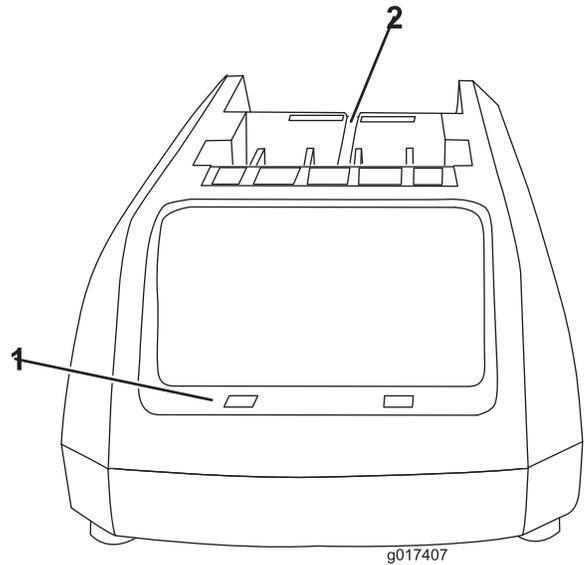
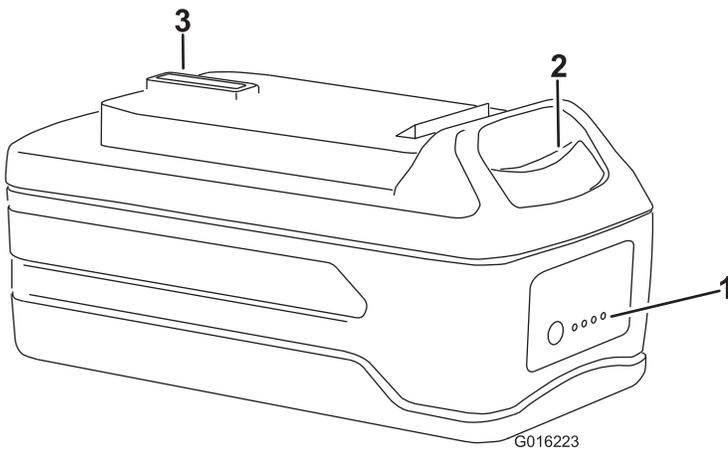

Figure 5
Figure 6
1. Turn the battery upside down and line up the battery terminal with the slot in the charger (Figure 5 and Figure 6).